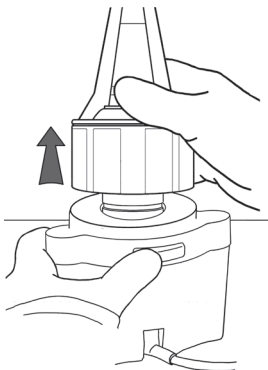

Figure 13
- Detach the Disposable Unit by pressing the release button on the rear of the Centrifuge and lifting the Disposable Unit (Figure 13).